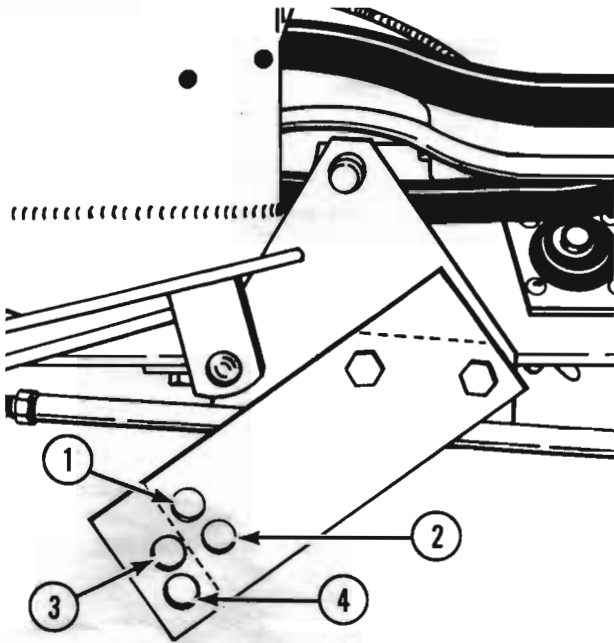

Figure 7 Adapter Plate (Early Production)
11. The rear of the blade lift arm fastens to the adapter plate. Use the washer and safety pin included. See Figure 7 or 8 for the correct adapter plate and mounting hole.